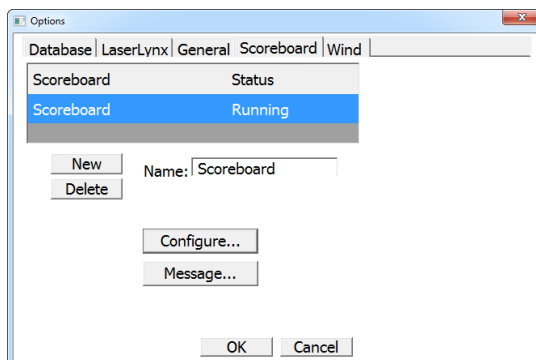

Figure 74: Scoreboard Options
3. Click on the **Scoreboard** tab, and then click **New (Figure 74)**.
7. Restart the FieldLynx program. Go to **Options > Preferences** and click on the **Scoreboard** tab again to verify the *Status* shows "Running" (**Figure 74**).